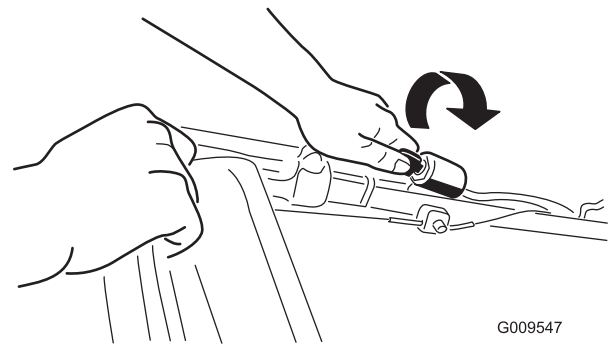
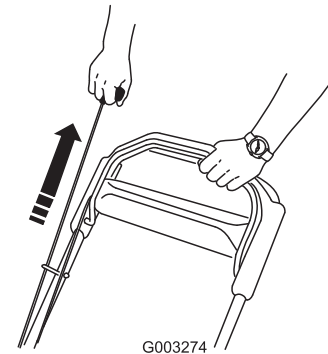

Figure 16
Figure 17
2. Turn the ignition key (Figure 16) or pull the recoil-start handle (Figure 17).
Note: When you pull the recoil-start handle, pull it lightly until you feel resistance, then pull it sharply (Figure 17). Allow the rope to return to the handle slowly.